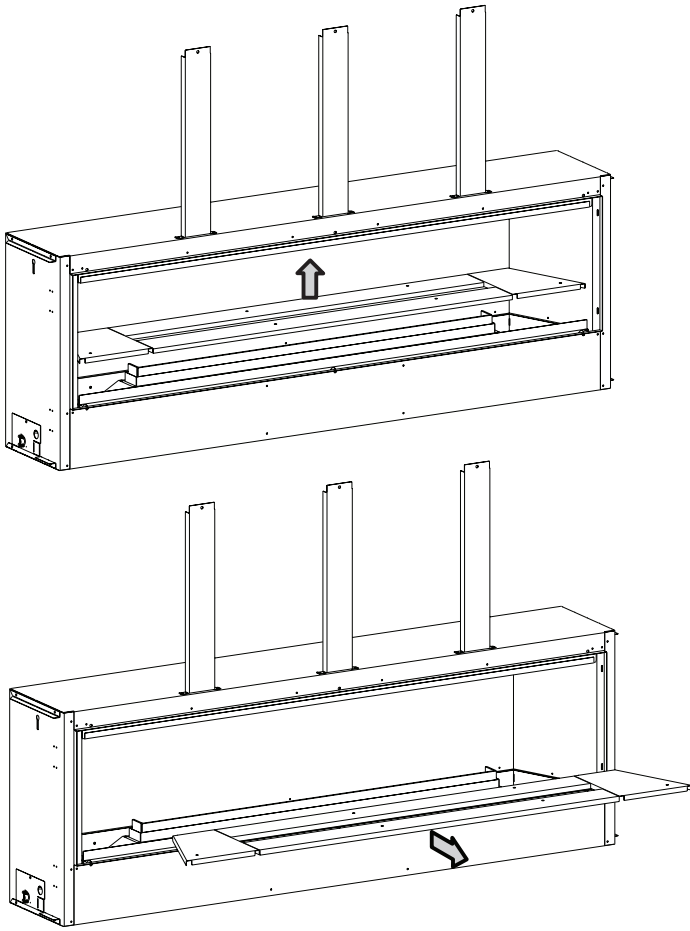

Figure 3
3. Remove the burner glass support screens by lifting them up and out. Set aside. **See Figure 3.**